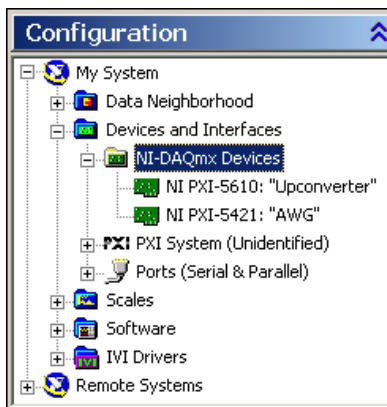

Figure 1-13. Renamed NI 5670 Hardware Modules
10. Verify that the new names for both modules are displayed as the example in Figure 1-13 shows before proceeding to step 11.